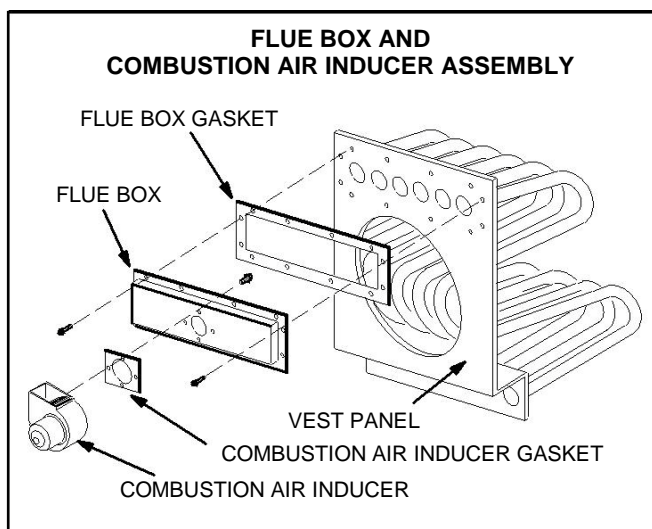

FIGURE 2
- 3 – Before making an electrical or gas connections, remove the securing screws on the flue box/combustion air inducer. See figure 2.
- 1 – All HED duct heaters are to be used with NFPA- or ANSI- approved chimneys or U.L.-listed type B-1 gas vents where applicable, as well as the modifications and limitations listed in figure 2. Seal single-wall vent material according to **General Recommendations and Requirements** section.